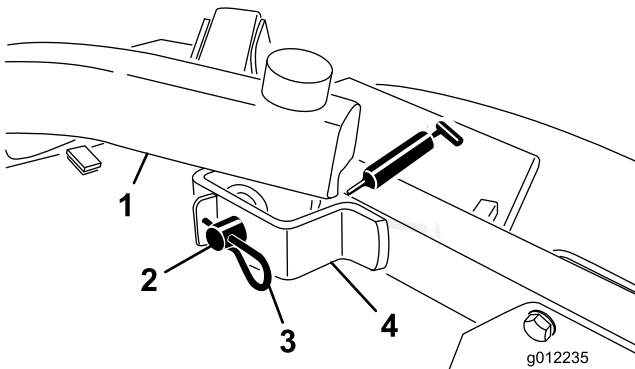

Figure 17
- Lift arm pivots, front (2) (Figure 17)